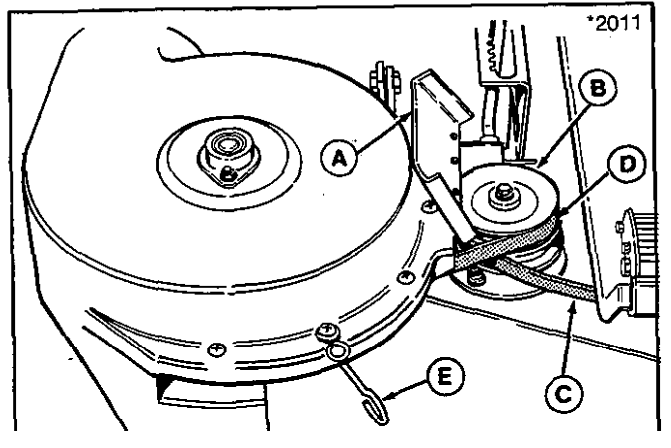

Figure 12
c. Place mower in low cut position. Raise the flap (A, figure 12) and push on the belt retainer (E) to obtain slack in the belt. Install the blower drive belt (D) in the top groove of the pulley(B).